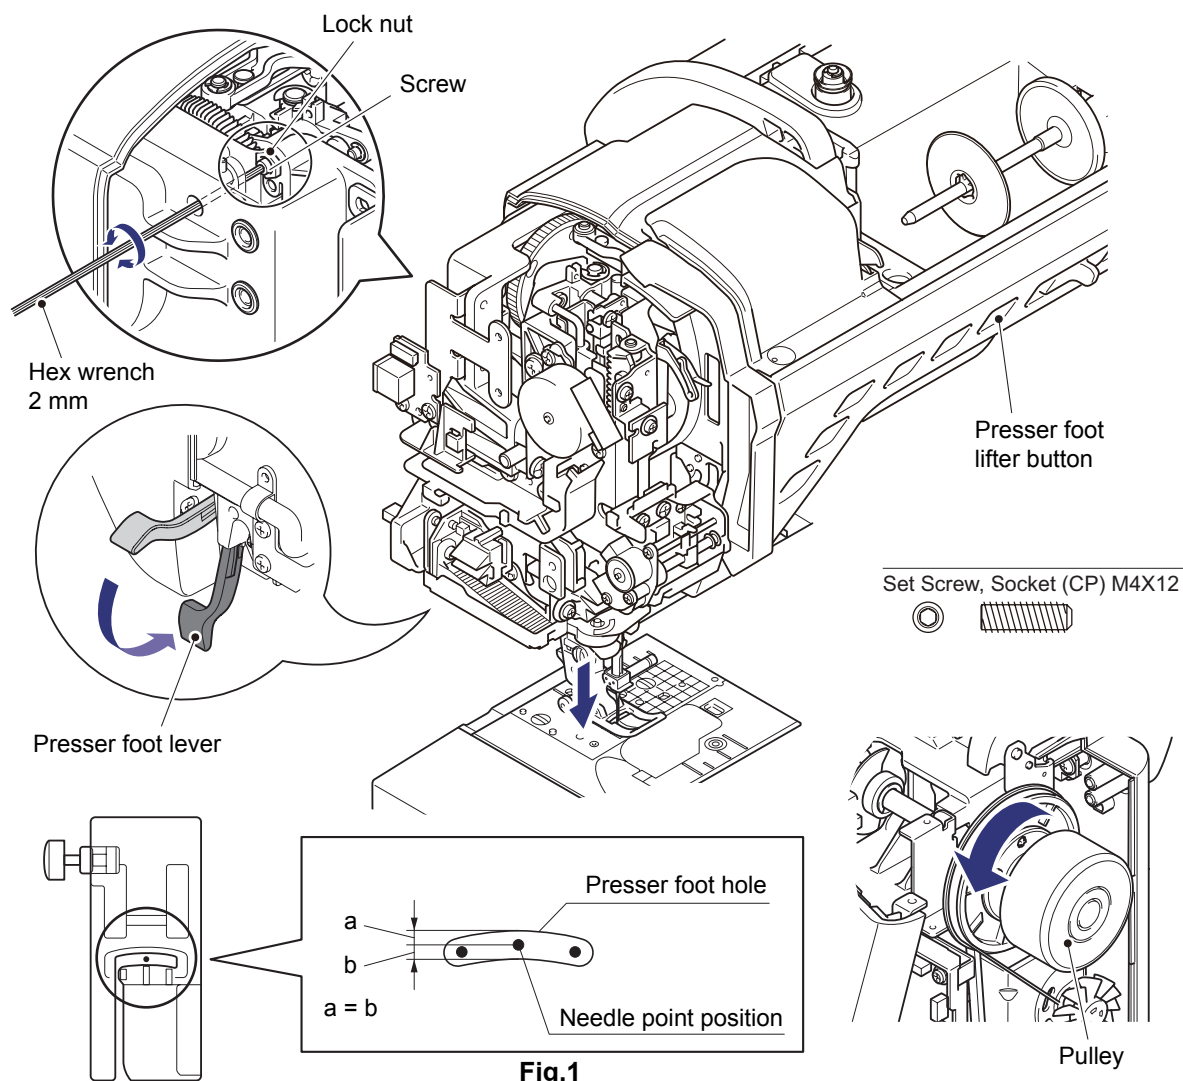

Fig.1
- Make sure that the shutter (A) is at the position described in Fig.1.
9. Adjust the position of the needle point by turning the screw. (Fig.1)
8. Turn the zigzag adjusting nut to adjust the position of the needle point. (Fig.1)